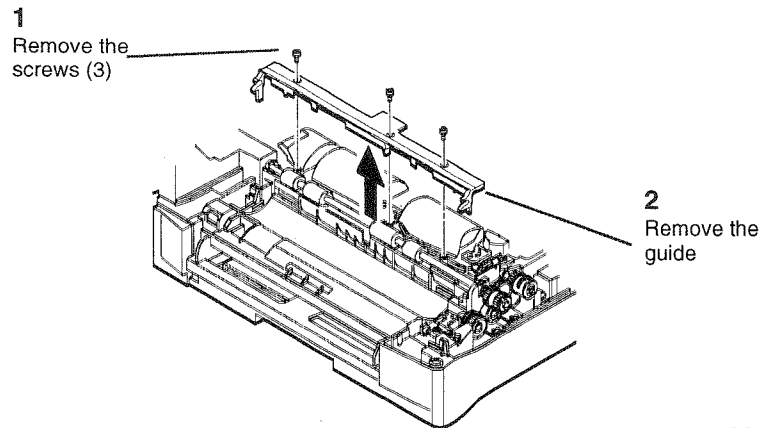

Figure 2 Removing the Upper Front Paper Guide
3. ( Figure 2): Remove the Upper Front Paper Guide.